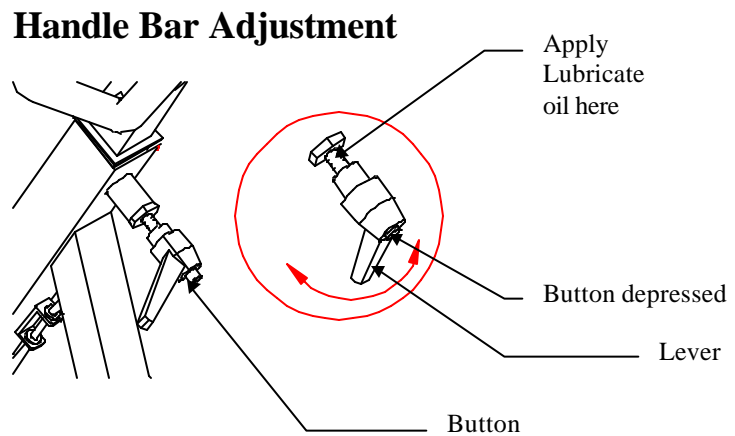

Figure 9
1. Grabbing hold of the handle bars, turn lever counter clockwise to completely loosen the handle bars (Figure 9).
3. Grabbing hold of handle bars, turn lever counter clockwise. This will loosen the handle bars and allow you to adjust them to your preferred height (Figure 9).